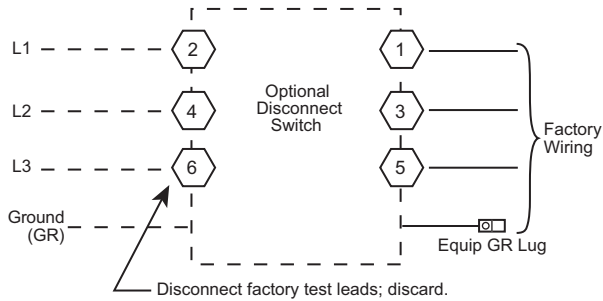

Fig. 32 — Power Wiring Connections
Field power wires are connected to the unit at line-side pressure lugs at the main terminal block (TB1) or at factory-installed option non-fused disconnect switch or HACR. Refer to Table 6 for maximum wire size at connection lugs. Use copper wire only. See Fig. 32.
Size wire based on MCA (Minimum Circuit Amps) on the unit informative plate. See Fig. 32 and the unit label diagram for power wiring connections to the unit power terminal blocks and equipment ground. Refer to Table 6 for maximum wire size at connection lugs.
UNITS WITH FACTORY-INSTALLED NON-FUSED DISCONNECT OR HACR CIRCUIT BREAKER — The factory-installed option non-fused disconnect switch (NFD) or HACR circuit breaker is located in a weatherproof enclosure located under the main control box. The manual switch handle is shipped in the disconnect or HACR circuit breaker enclosure. Assemble the shaft and handle to the switch or HACR circuit breaker at this point. Discard the factory test leads (see Fig. 32). The factory disconnect is either an 80A or 100A depending on the unit voltage, indoor motor and options.
2. Install power lines to terminal connections as shown in Fig. 32.